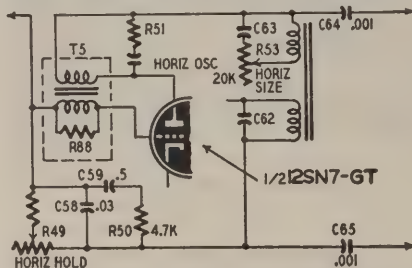

Fig. 5—Horizontal circuits of TS-18
**Vertical bars on left half of picture.** Defective damping resistors R88 or R51 across primary and secondary of horizontal blocking transformer T5. (Fig. 5.)
**Poor horizontal linearity.** Defective horizontal sawtooth capacitors C62 (680- $\mu$ f) or C63 (900- $\mu$ f). (Fig. 5.)
T5. Shorted horizontal sawtooth capacitors C62 or C63 (680 and 900- $\mu$ f). (See Fig. 5.)
**Insufficient width.** Defective 12SN7-GT horizontal oscillator, defective horizontal size control R53. Open h.v. coupling capacitors C64 or C65 (.001- $\mu$ f, 6,000 volts) going to horizontal deflection plates. Open .03- $\mu$ f capacitor C58 across horizontal hold control and series resistor. Defective ballast tube, causing low heater voltage on horizontal oscillator. (Fig. 5.)
**Horizontal fold-over (left of picture).** Incorrect setting of horizontal hold control. Increased values in horizontal sawtooth capacitors C62 or C63 (680 and 900- $\mu$ f). (See Fig. 5.)